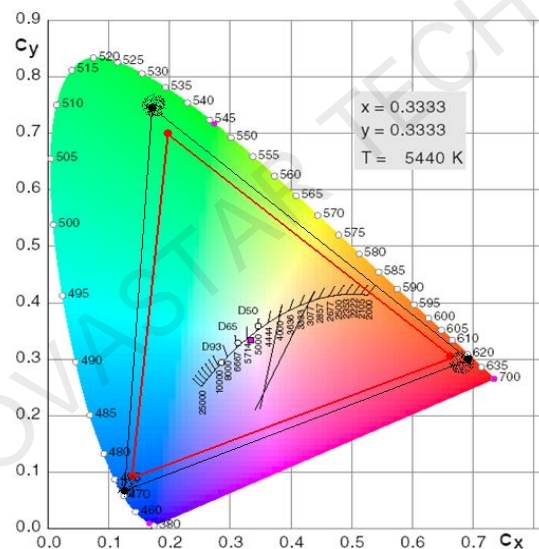

Fig. 13-8 Gamut of A LED Display Before and After Calibration
**Brightness and color calibration:** Brightness and color calibration is based on the theory of RGB color match. It adjusts the coordinates of LED lights in the RGB color coordinate system to reduce the color diversity. As shown in Fig.13-8, the large triangle is the gamut of a LED display before calibration, while the small one is the gamut of same LED display after calibration. The R, G and B color coordinates of LED lights scatter in relative large areas when before corrected while those after calibration are concentrated, which represents high color uniformity.